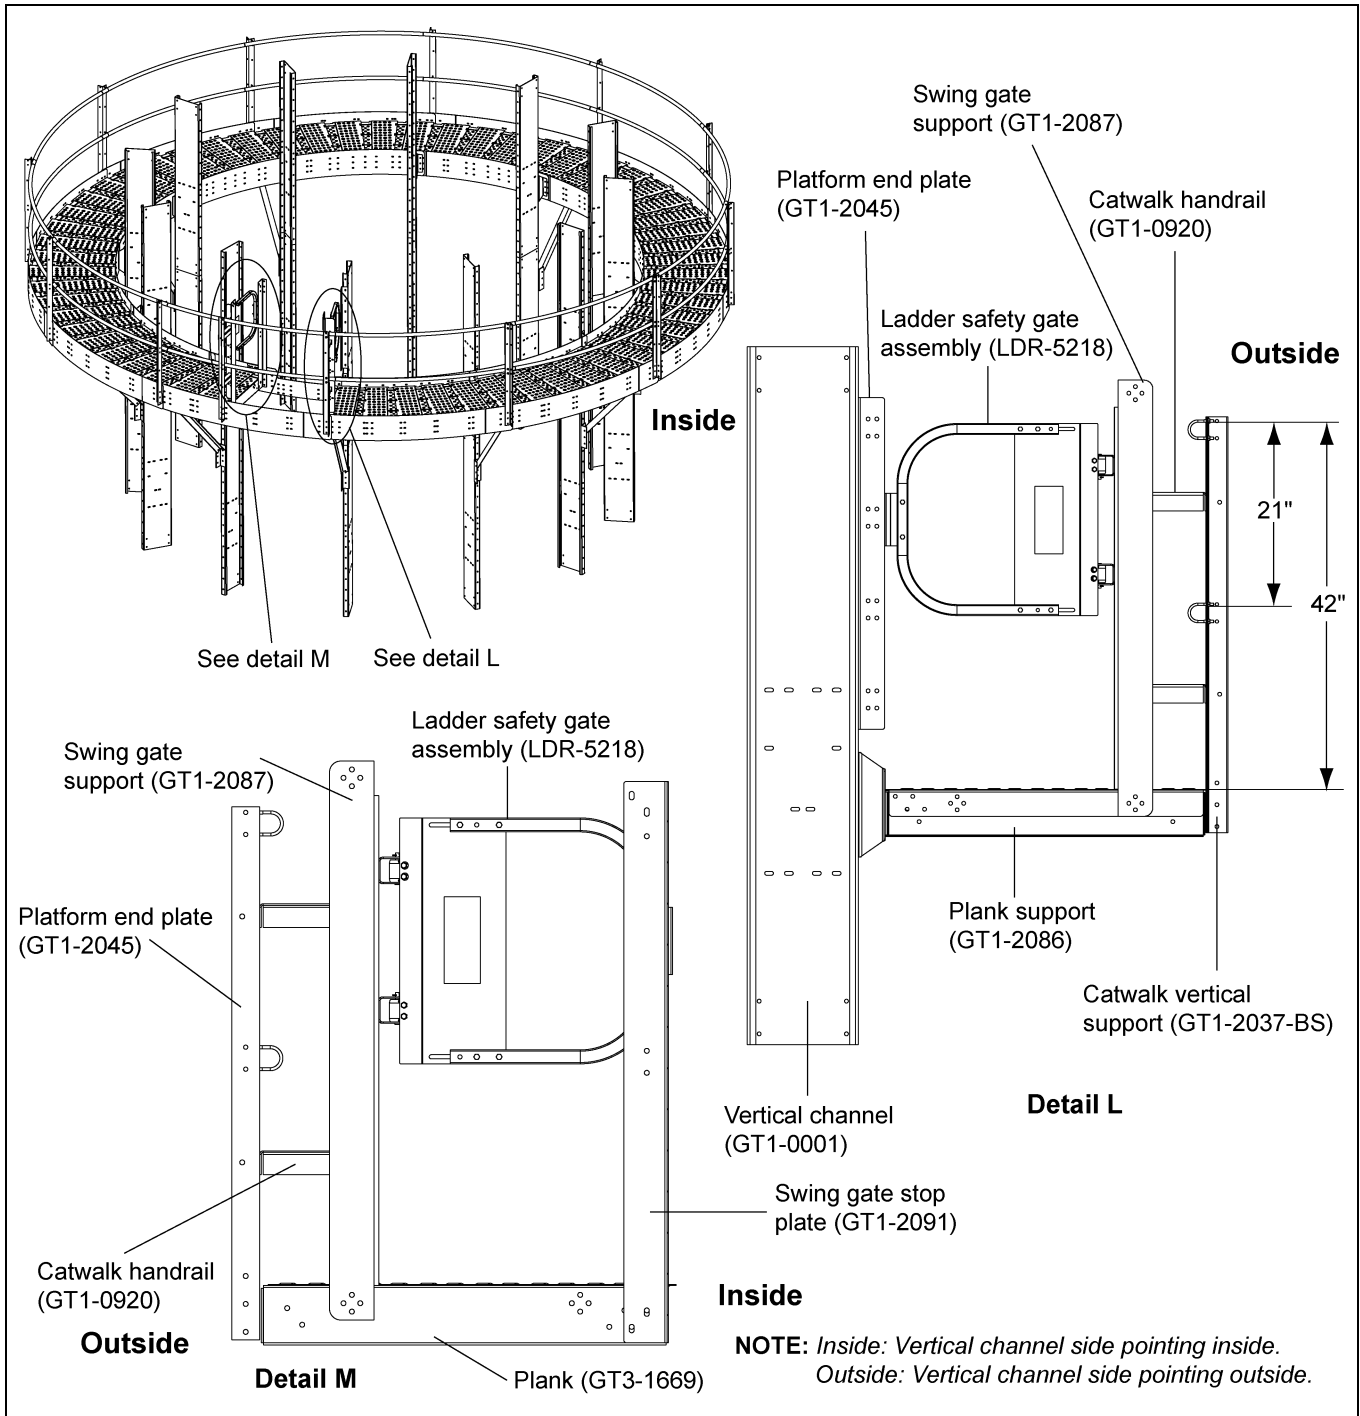

Figure 4Y
5. Install the ladder safety gate assembly (LDR-5218) to the swing gate support (GT1-2087) using 3/8"-16 x 1" JS grade 8 or grade 8.2 bolts (S-7485) and 3/8"-16 ZN grade 5 nuts (S-968). (See detail L in Figure 4Y.)
6. Install the ladder safety gate (LDR-5218) to the swing gate support (GT1-2087) and attach the stop plate (GT1-2091) to the ladder opening toe board (GT1-2089) and the plank (GT3-1669) using 3/8"-16 x 1" JS grade 8 or grade 8.2 bolts (S-7485) and 3/8"-16 ZN grade 5 nuts (S-968). (See detail M in Figure 4Y.) The distance between the plank and handrail is 42".